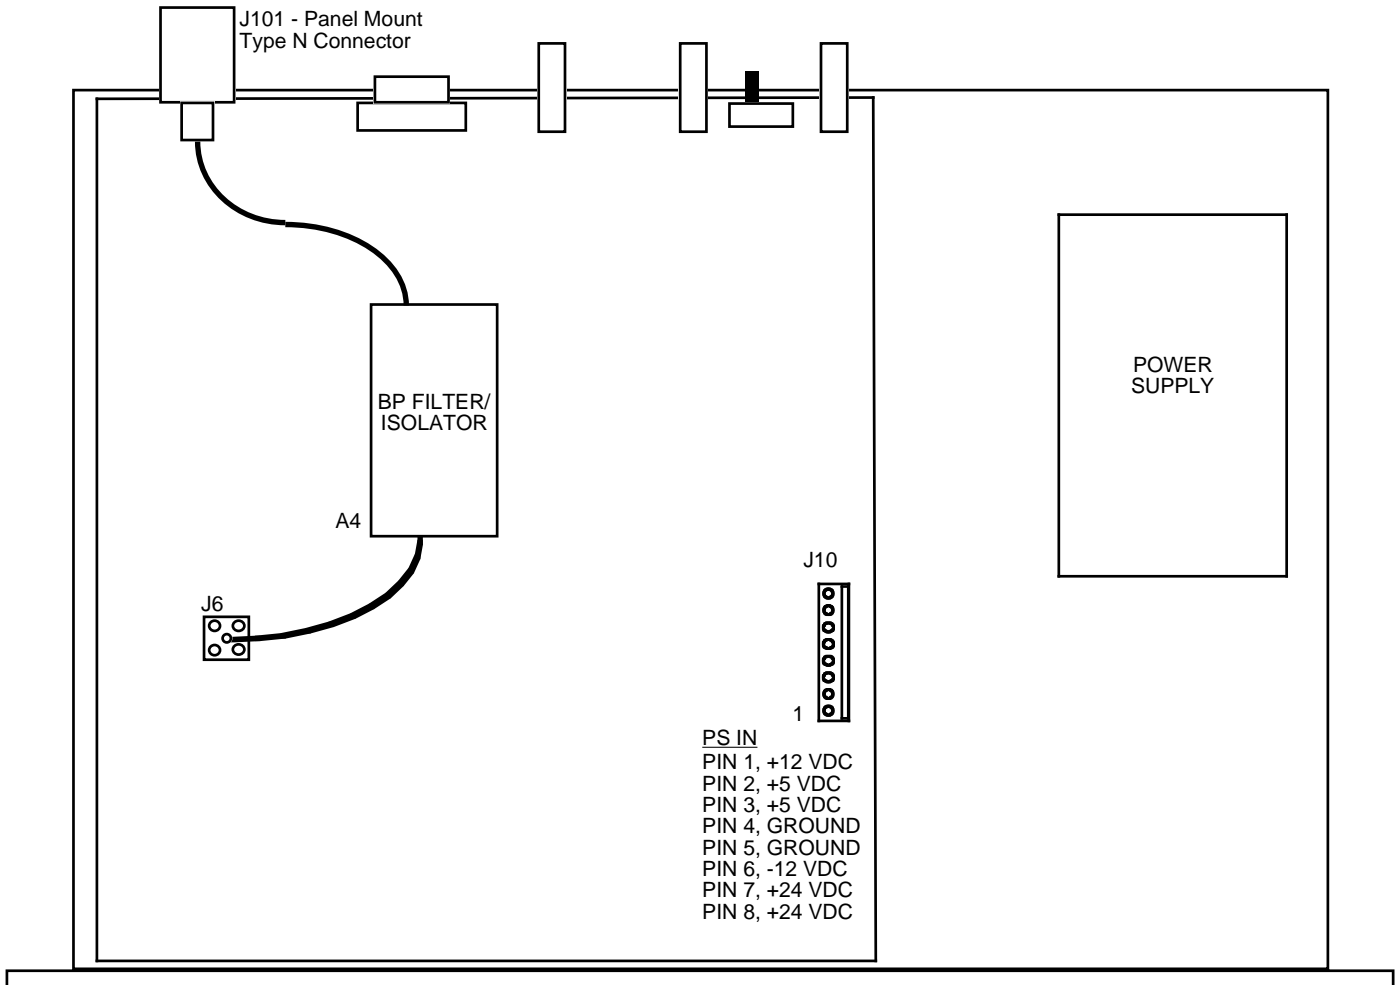

FIGURE 2.0 2116-25 Mechanical Assembly
2.1 Mechanical - The 2116-25 consists of one RF PCB housed in a 1 RU (1 3/4 inch high) by 12 inch deep chassis. A switching, ± 12 , +24, +5 VDC power supply provides power for the assemblies. The 2116-25 can be secured to a rack using the 4 holes on the front panel. Figure 2.0 shows how the 2116-25 is assembled.